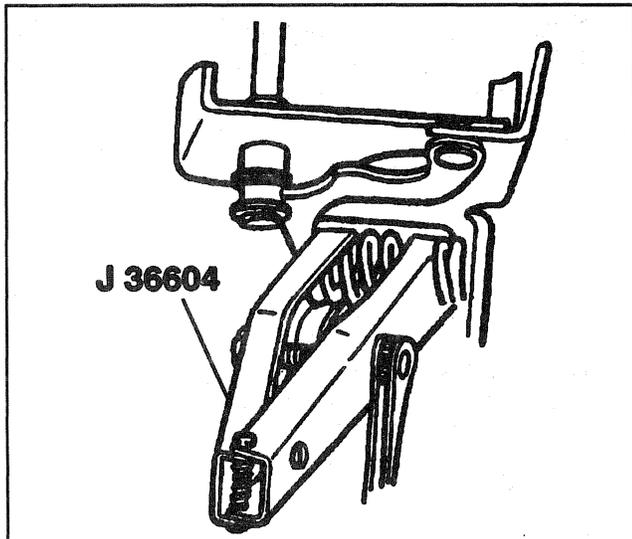

Figure 12—Hinge Spring Removal Tool
Remove or Disconnect (Figures 12 through 14)
4. Door hinge spring using J 36604 (Figure 12).
7. Upper hinge pin retainer (Figure 12).
8. Upper hinge pin (Figure 12).
Install or Connect (Figures 12 through 14)
3. Upper hinge pin with the pointed end up (Figure 12).
4. New hinge pin retainer (Figure 12).
7. Door hinge spring using J 36604 (Figure 12).